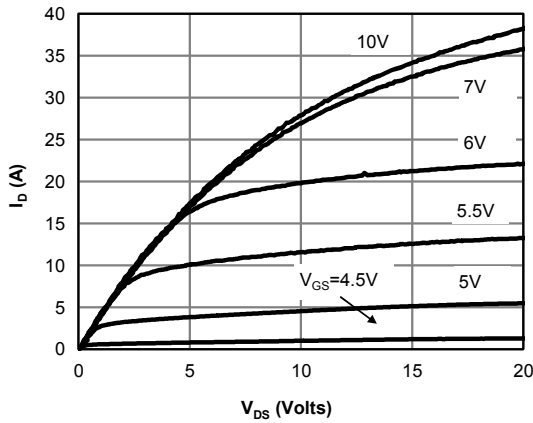

Figure 1: On-Region Characteristics @ 25° C
E. The static characteristics in Figures 1 to 6 are obtained using <300 μs pulses, duty cycle 0.5% max.